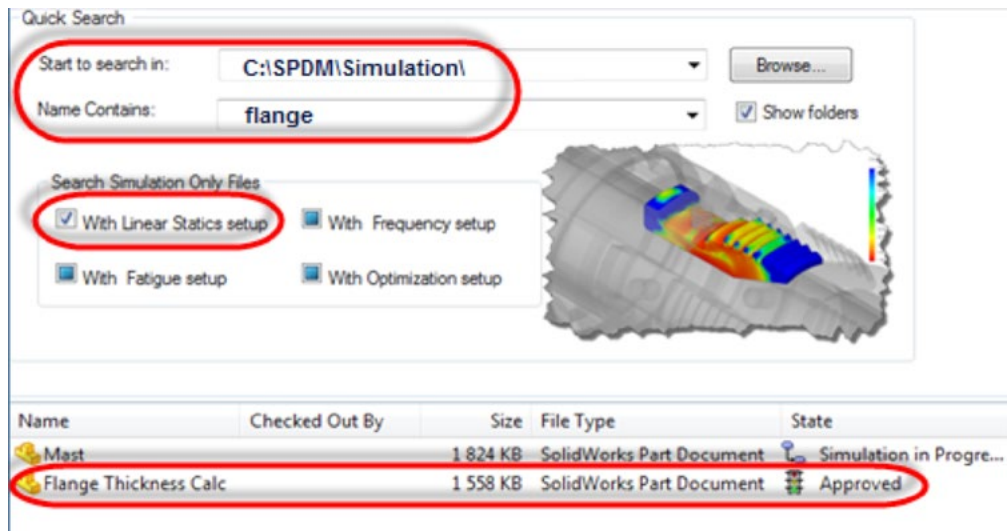

Figure 9: Example of custom interface in data management tool
Step 4: The simulation engineer reviews the requirements and gets ready to do the simulation. This is where the intelligent simulation framework discussed earlier plays a crucial role. The simulation engineer uses the data management system to search for similar CAD files that have simulation information already built into them. Powerful search options can be built inside the data management system, such as the one shown in Figure 9.